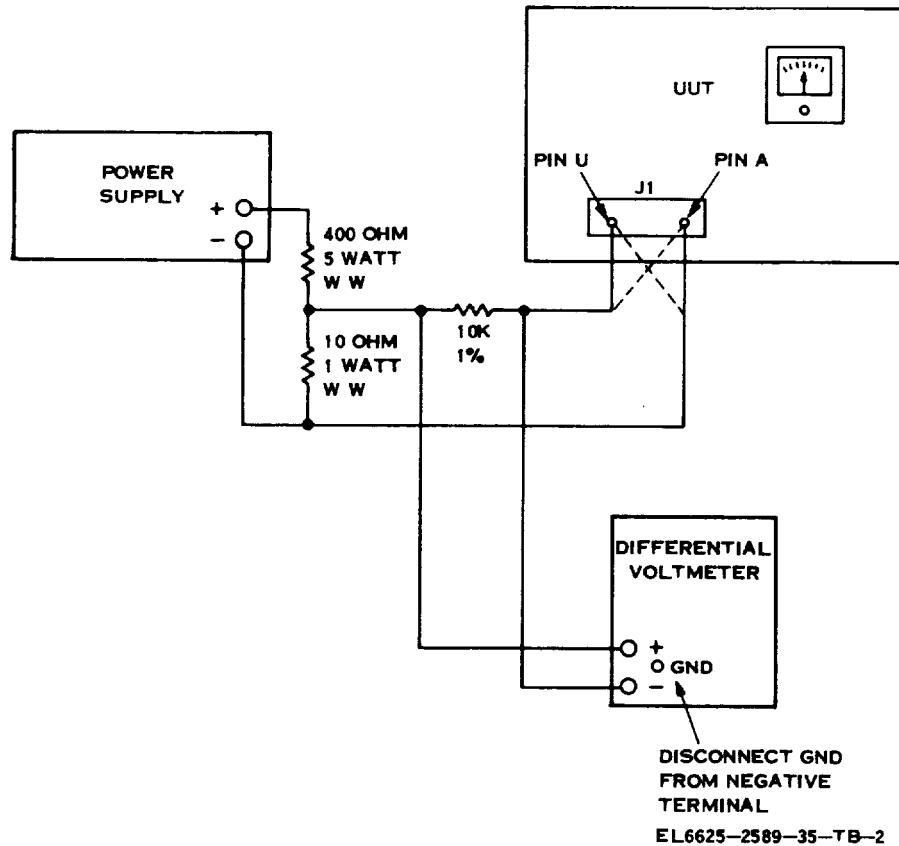

Figure 2. Servo Drawer Test Set microammeter calibration - test equipment setup.
positive (+) and negative (-) terminals of a power supply as shown in figure 2.
(2) Connect one end of a 10-Kohm, 1% resistor to the junction of the 400-ohm and 10-ohm resistors as shown in figure 2.
(3) Connect the other end of the 10-Kohm resistor to pin J1-U of test connector J1 on the UUT front panel.
(4) Connect the negative terminal of the power supply to pin J1-a of the test connector.
(5) Connect a differential voltmeter across the 10-Kohm resistor as shown in the figure, observing the polarities shown.
(6) Set the COARSE TUNE/AGC DET rotary switch on the UUT front panel to the + 15V position.
(7) Activate the power supply.